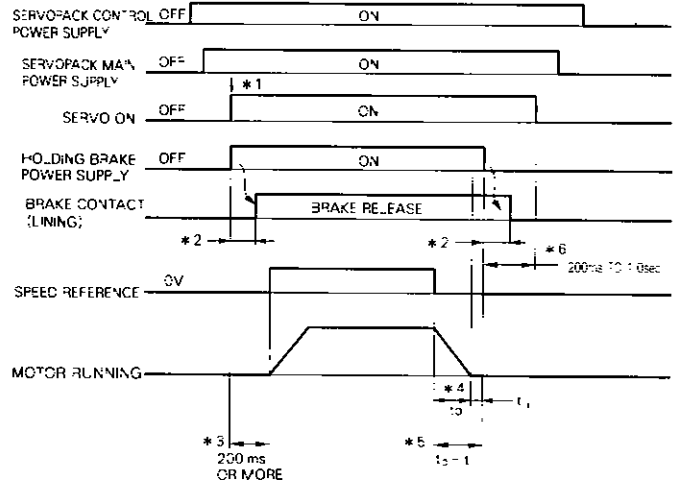

Fig. 6.21 Brake Timing
(1) This brake locks at non-magnetization. Therefore, turn OFF the brake power supply when the motor stops. Should the brake work while the motor is running, the contact causes excessive abrasion and the brake may be defective in shorter period.
(2) The brake has delay time. For operation timing of ON/OFF, see Fig. 6.21.